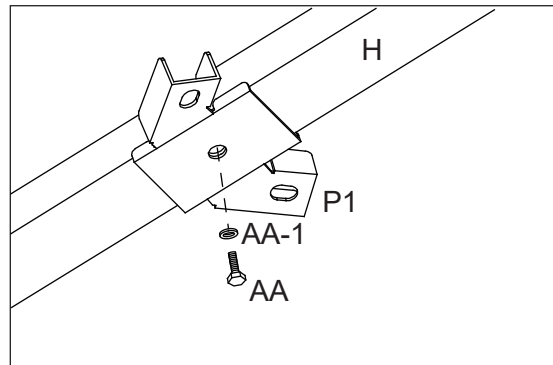

Figure 10-2
10.2: Attach Connector (P1) to Main Roof Corner Support (H) using Bolt (AA) and washer (AA-1). See Figure 10-2.